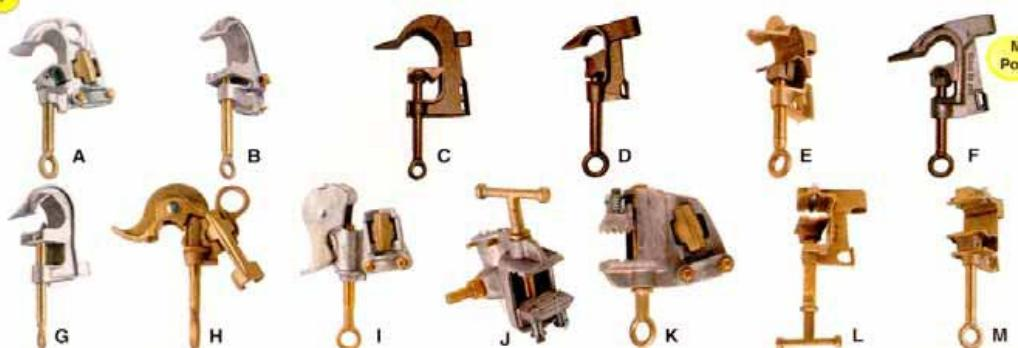

Figure 1.1
- Is the correct type of clamp being used for the item being grounded and the ground connection point? See Figure 1.1 for examples of various types of ground clamps.